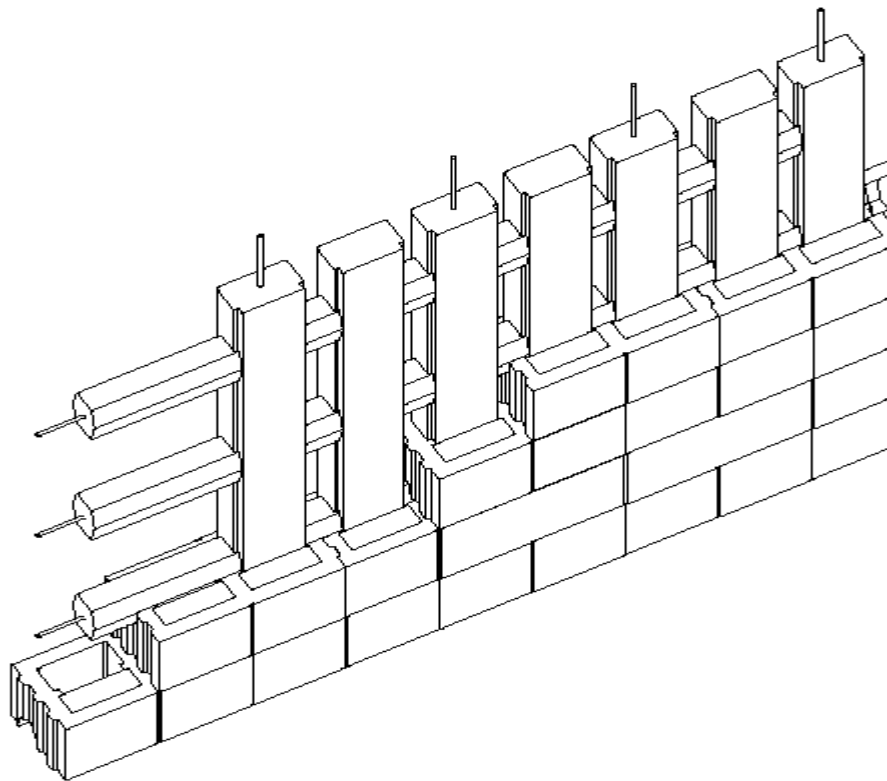

Figure 1- Filled Wallform Schematic
The WFs are trimmed to height at the factory within a tolerance of 1/16". When stacked, Faswall® Wallforms provide the framework for a reinforced concrete post and beam wall (see Figure 1). The post and beam system is referred to as a “screen-grid” (SG) wall system. A horizontal core is formed at 16” centers vertically in the Faswall® ICF wall system. For special structural situations Faswall® WF’s can be installed to form horizontal cores on 8” centers as well.